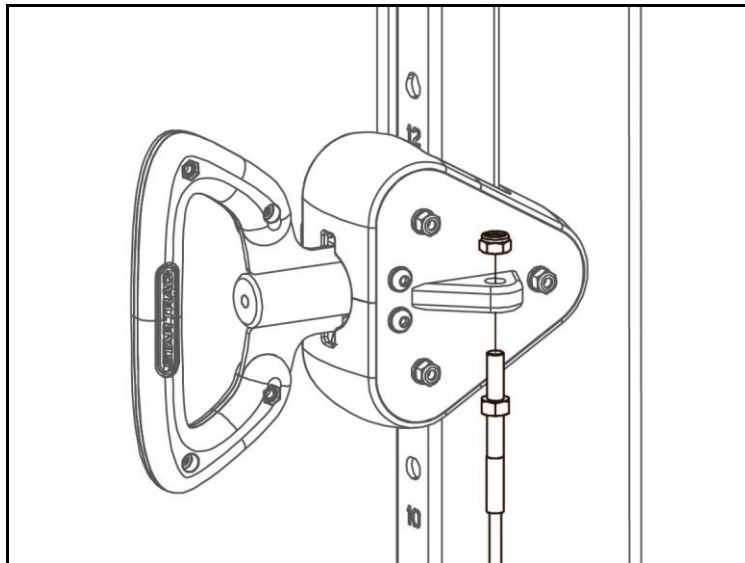

Fig. 4
- Using a pair of vice grip pliers or a 7mm open wrench to grip the cable end shank; remove the nylon lock nut holding the cable end to the carriage assembly with a 10 mm open wrench (Fig. 4).